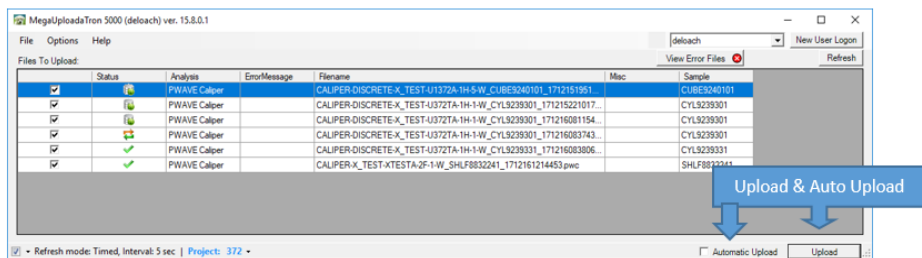

Figure 11. Main MUT screen
2. Once activated, the list of files from the **C:\DATA\IN** directory is displayed. Files are marked ready for upload by a green check mark (Figure 11).